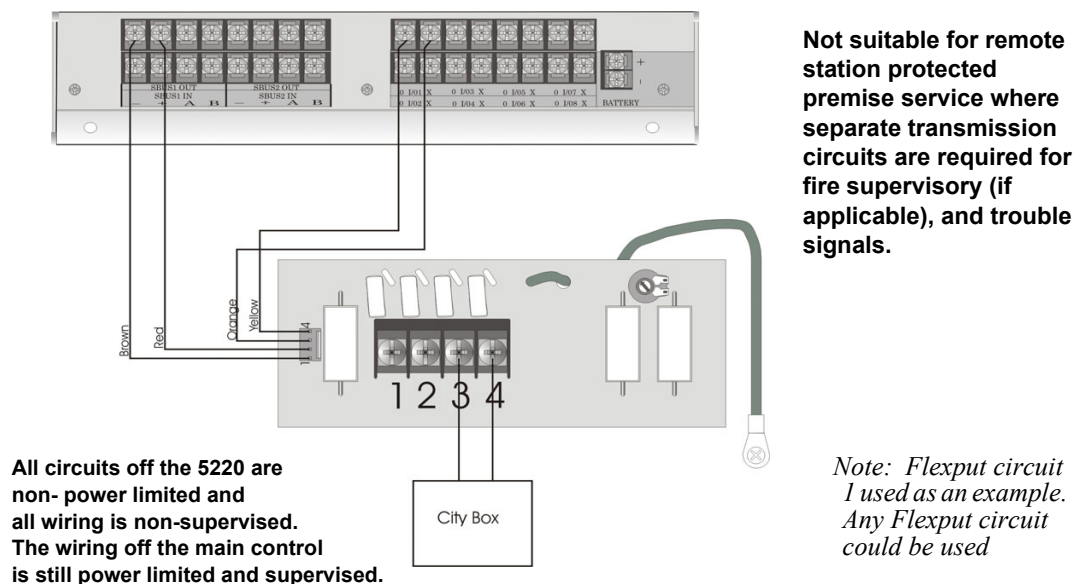

Figure 4-43 City Box Connection
2. Wire the 5220 to the control panel as shown in Figure 4-43. This drawing also shows how to connect the city box coil to terminals 3 and 4 on the 5220. Do not install an EOL resistor in the terminals of the Flexput circuit used for this application.